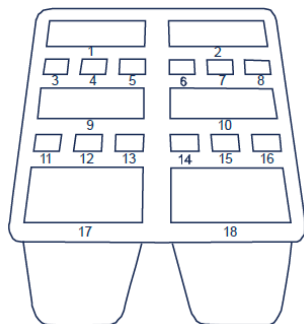

Figure 4-3 : Well position
- #1 well (see Figure 4-3)
- #2 well (see Figure 4-3)
- #1 and #2 well (see Figure 4-3)
- # 15 well (see Figure 4-3) : The following instructions are only for PE kits.